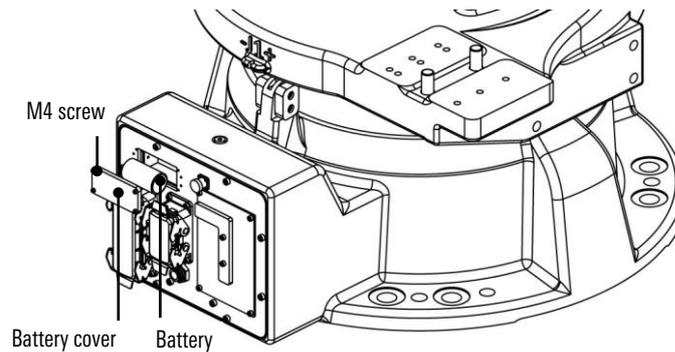

Figure 13-3 Schematic Diagram of Battery Replacement
- Remove the battery cover on the electrical mounting plate of manipulator, as shown in Figure 13-3.